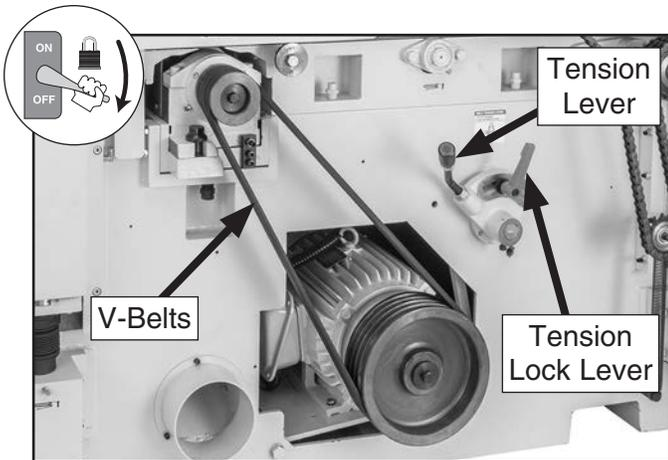

Figure 90. Lower cutterhead belt cover removed.
2. Open chain drive access door and remove lower cutterhead belt cover (see **Figure 90**).
3. Loosen tension lock lever and pull up on tension lever (see **Figure 90**) until there is slack between V-belts and pulleys. While pulling tension lever up, tighten tension lock lever.